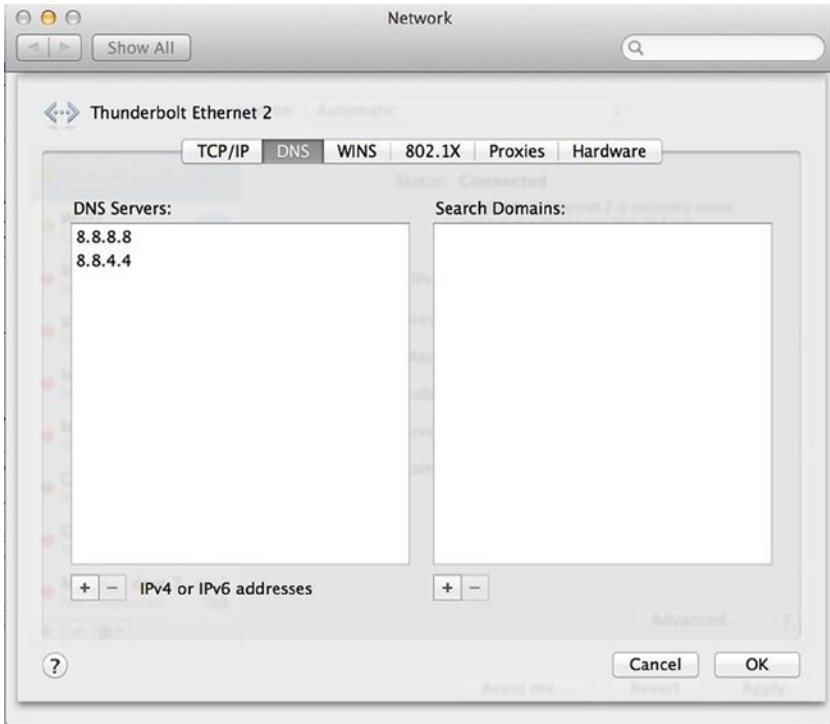

Figure 5-17. Configuring the DNS servers on MacOSX
4. Click on Advance and select the DNS tab to configure the DNS server, as shown in Figure 5-17.